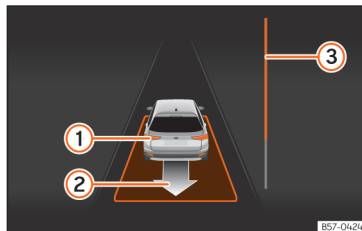

Fig. 205 On the instrument panel display: exit a parallel parking space.
The progress bar »» Fig. 205 ③ indicates the distance to cover »» page 288.